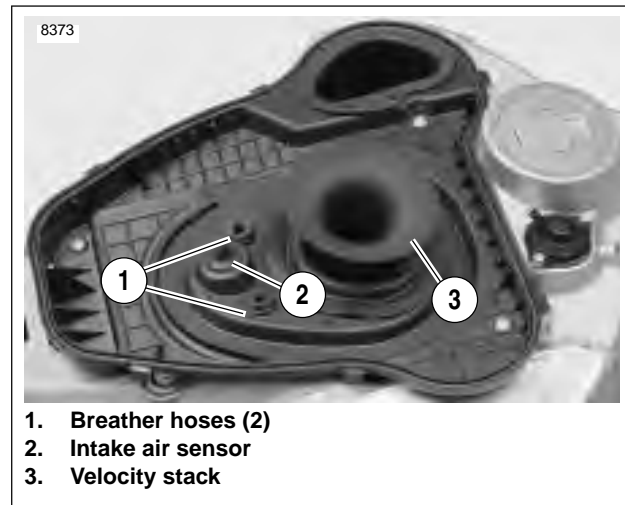

Figure 1-41. Air Cleaner Baseplate Assembly
3. See Figure 1-41. Make sure two crankcase breather hoses (1) and intake air sensor (2) are captured in baseplate behind velocity stack (3).